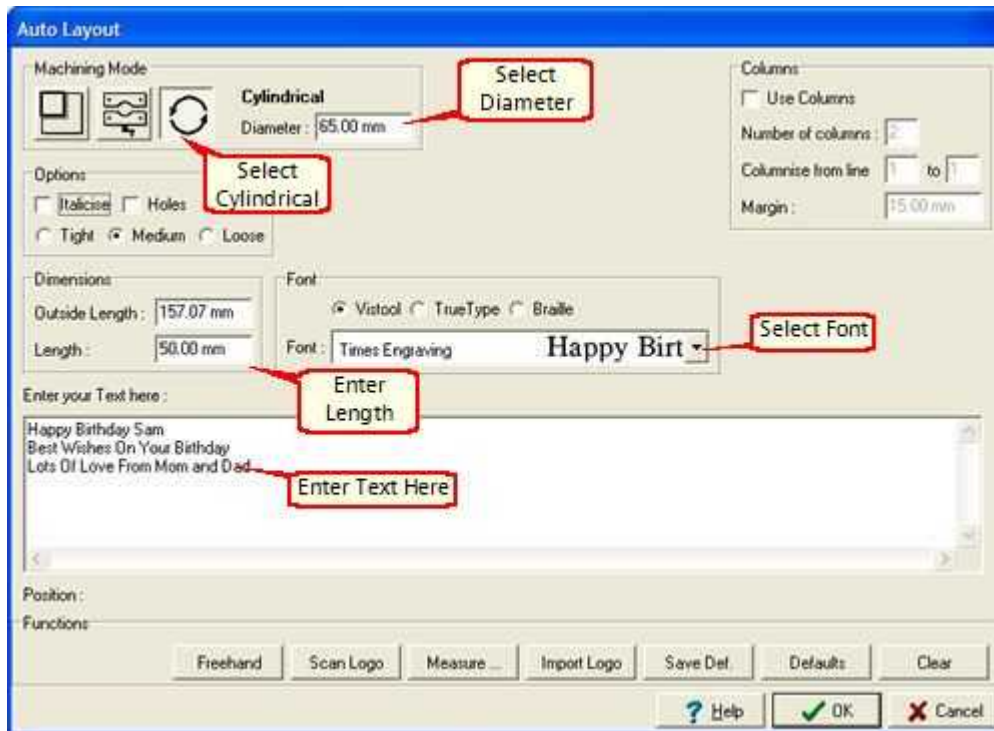

Figure 2
- 3 You can now enter the Dimensions and Font in the boxes, see Figure 2. Select the required font, by Clicking On and scrolling through the list, select by left clicking on the name. Then enter the "Width" and "Height", this is the size of imaginary white piece of paper, see Figure 1.
- 4 Enter your text in text entry box, at the end of each line press "Enter", this will make a new line, see Figure 2. Leave all other entries as they are and Click On "OK".